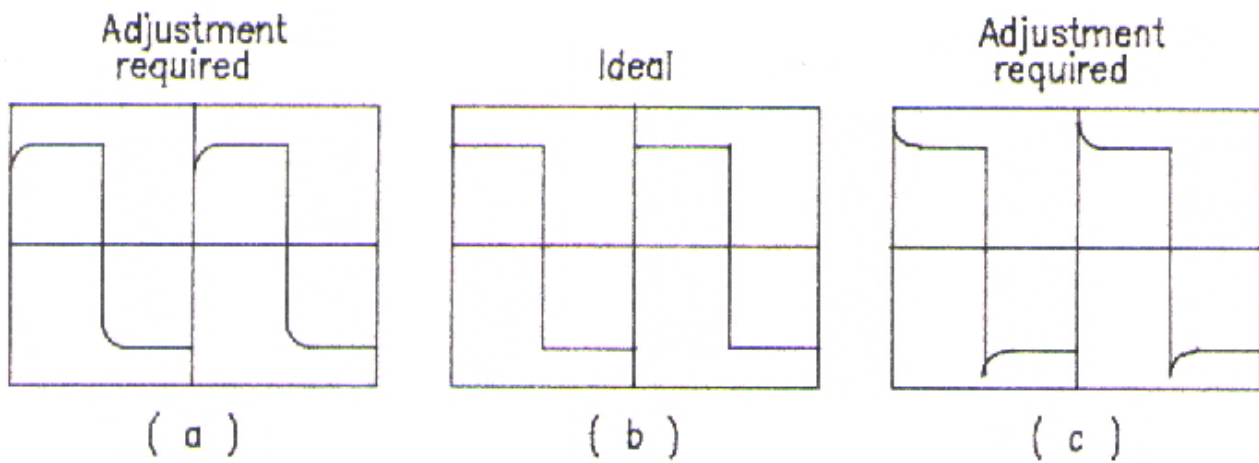

Fig. 11
- Adjust VC1 to make the displayed waveform become as Fig 11(b).
- Adjust VC2 to make the displayed waveform become as Fig. 11(b).